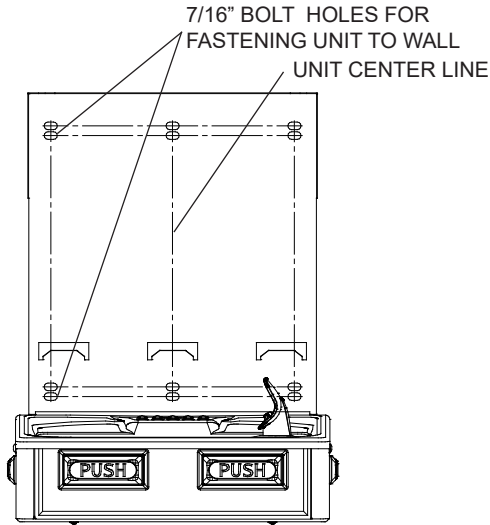

Fig. 5
- 2) Remove wall mounting plate from Bottle Filler. Place wall plate against wall on top of basin. Center the wall plate side to side with the basin. Mark the six (6) mounting holes with a pencil (See Fig. 5).
- 4) Install wall mounting plate to wall using six (6) 7/16" orround mounting holes (mounting bolts not included) (See Fig. 5). Use appropriate fasteners for your wall type.